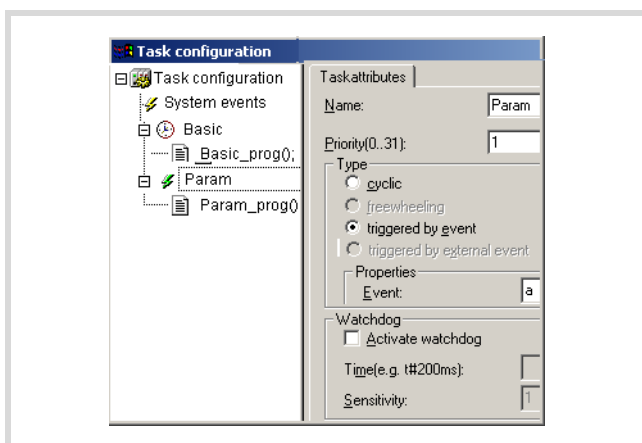

Figure 27: Creating an event controlled task
- Create a task of the "event controlled type" with the name "Param" in accordance with Figure 27.